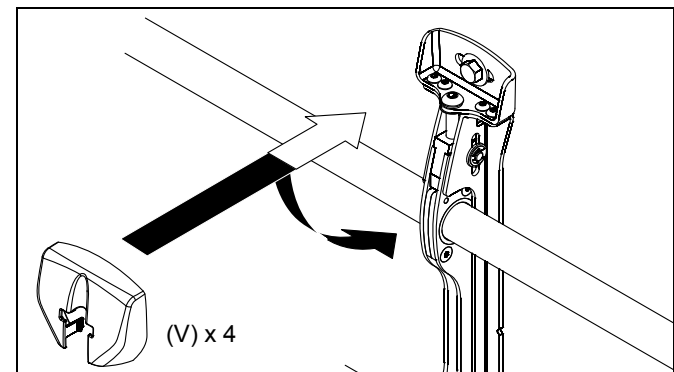

Figure 7
1. Attach wall bracket caps (V) to top and bottom of both wall brackets. (See Figure 7)